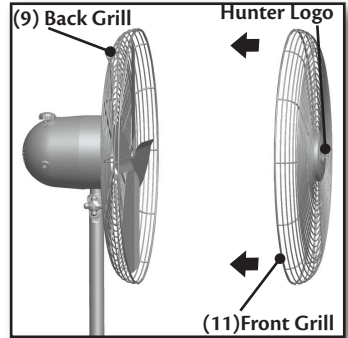

Figure 15.
1. Place the Front Grill(11) against the Back Grill(9) so the Hunter logo faces right side up. Figure 15.